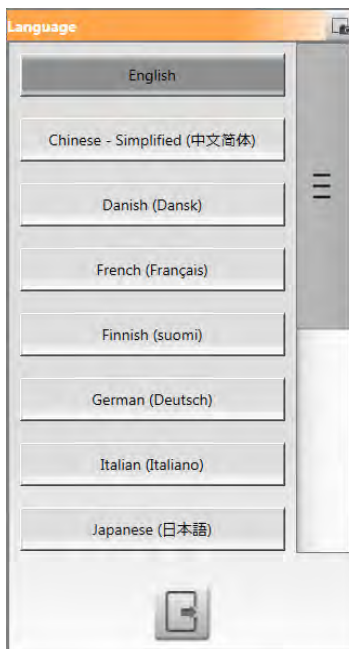

Figure 3-3 Language Dialog Box
3. On the Language dialog box, touch a language button. Refer to Figure 3-3.